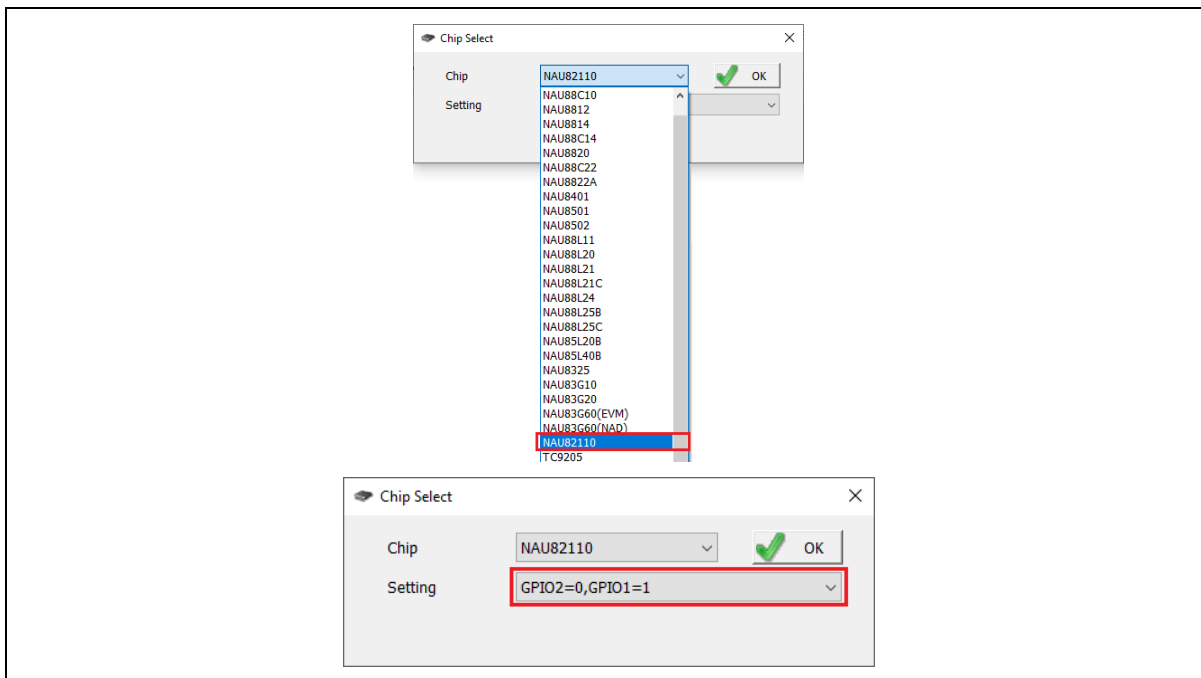

Figure 3-4 NuvotonAudioGUI Operating Step (1)
1. Open NuvotonAudioGUI, choose the corresponding IC Part Number, address setting of I2C (check by J5, J6), and click [OK], as shown in Figure 3-4.